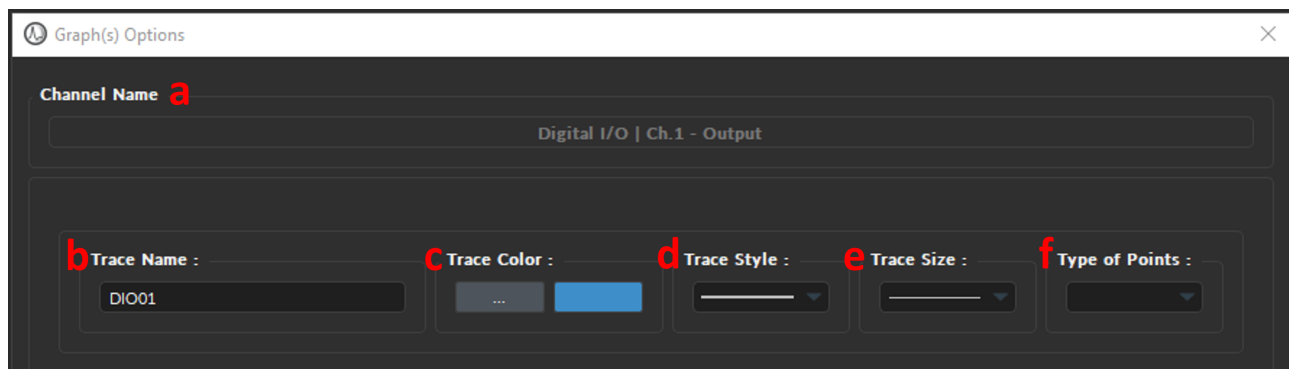
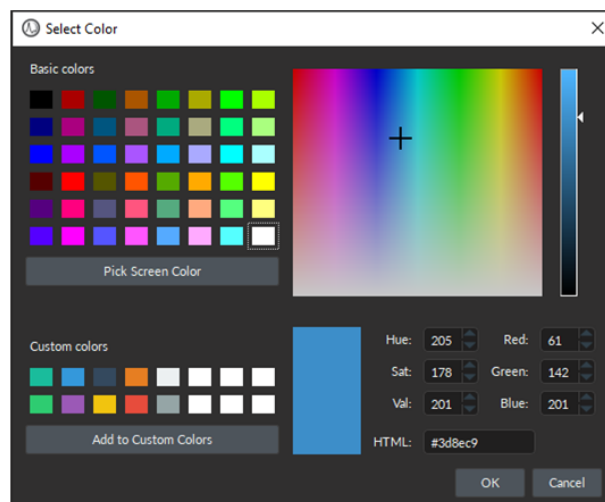

Figure 8.51: Graph(s) Options Window
Figure 8.52: Select Color Window
1. The **Channel name** (Fig. 8.50b, 1) is located on the upper left of the **Control box**, identifying the type of channel and its number, corresponding to that on the console. This name can be modified in the **Graph options** window (Fig. 8.51).
3. The **Graph(s)** (Fig. 8.50b, 3) button opens the **Graph Options** window (Fig. 8.51) corresponding to the channel whose graph will be modified. This window allows users to configure visualization and naming parameters of each channel graph (Fig. 8.51). If a channel has multiple traces, parameters to configure each trace individually will appear automatically on different rows (Fig. 8.51). **Graph(s) Options** parameters (Fig. 8.51) are as follows:
- a) The **Channel Name** (Fig. 8.51, 1) is the default name assigned by the software, which includes the type of channel (Digital / Analog In or Out) and the location of said channel on the console (BNC connector 1-4).
- b) The **Trace Name** text-box (Fig. 8.51, 2) allows users to specify a name for the trace, instead of the default name generated by the software.
- c) The **Trace Color** button (...) (Fig. 8.51, 3) opens the **Color Select** window (Fig. 8.52), which allows the selection of a trace color from a wide palette. The **Pick screen color** in this window allows the selection of any color displayed on the computer screen.
- d) The **Trace style** drop-down list (Fig. 8.51, 4) allows the selection of the type of trace, from full to dashed lines. If the style chosen is empty, the trace will not be displayed.
- e) The **Trace size** drop-down list (Fig. 8.51, 5) allows the selection of the trace size. Using a bigger **Trace size** than the default may result in slower display and performance degradation.
- f) The **Type of points** drop-down list (Fig. 8.51, 6) allows the selection of what type of point used to indicate data points on the trace. Using different point types than the default (none) may result in slower display and performance degradation.
- **Axis Options** - Each **Graph** (Fig. 8.51) has both a **Voltage** or **State** as the vertical axis and **Time** as the horizontal axis. Double-clicking either axis will open an **Axis Options** window where the axis limits can be set, similar to the **Zooming Range** in the **View Tab**. Any changes done on a horizontal axis will change the axis limits for every channel.